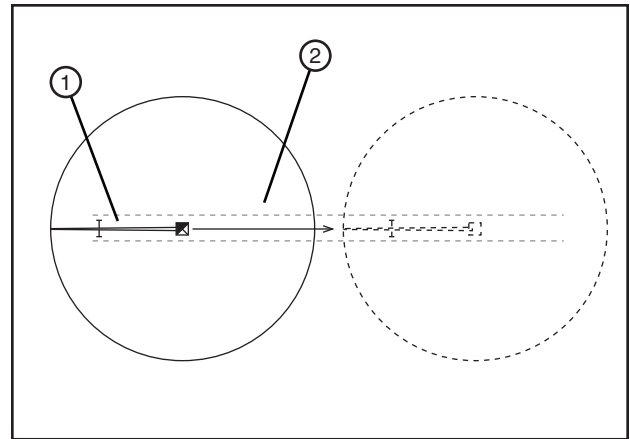

Figure 49-1 1. Machine
1. Position the machine in the tow lane. When positioning the center pivot, always use the "STOP" button on the control panel to stop the center pivot. NEVER stop the center pivot with the control panel or service disconnect switches. See figure 49-1.